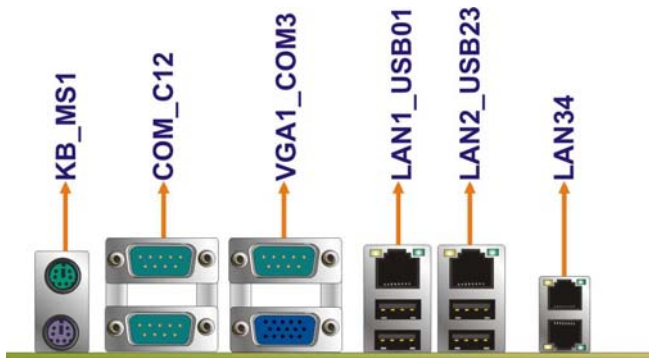

Figure 4-15: 2807760 External Interface Connectors
CN Location:	See Figure 4-15
CN Location: See Figure 4-15
- CN Location:** See **Figure 4-15**
CN Location: See **Figure 4-15**